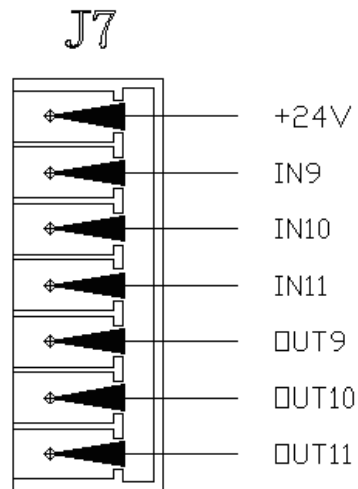

Figure 6
(5) J7 interface male pin definition (shown in Figure 6)